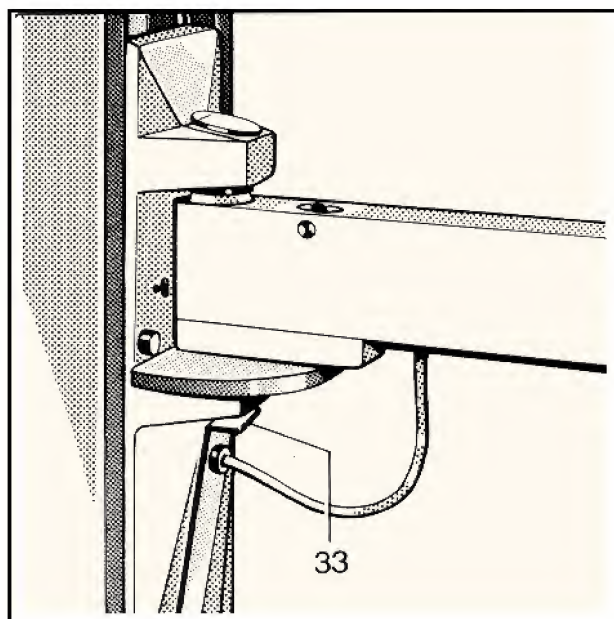

Fig. 23
Switch: Remove cover cap (Fig. 23/item 33) from vertical carriage. Adjust 40" switch -S5 in vertical carriage after loosening the two screws within range of slotted holes